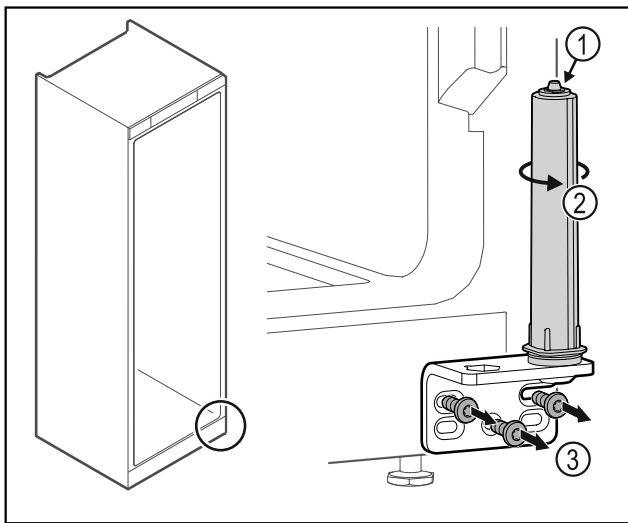

Fig. 31
- ▶ Do not disassemble the door closing system *Fig. 31 (1)*.
- ▶ Turn the closing system *Fig. 31 (2)* until it clicks.
- ▶ Unscrew the hinge *Fig. 31 (3)*.